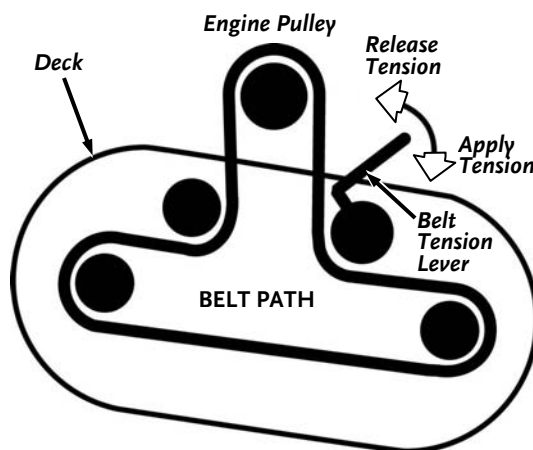

Figure 9
5. At the same time, mount the Belt on the Field and Brush mower Engine Pulley. Ensure that the Belt is routed correctly around the other Pulleys (Figure 9).